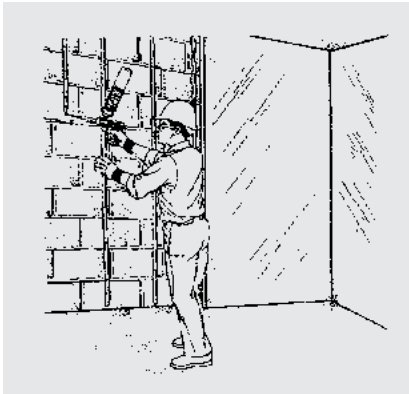

Figure 2
2. Apply heavy beads (min. bead size 3/8") of DuPont™ Great Stuff™ Construction Adhesive or appropriate construction-grade adhesive to the wall (Figure 2). **Note:** Follow adhesive manufacturer recommendations for application pressure and cure times for proper adhesion to masonry walls.